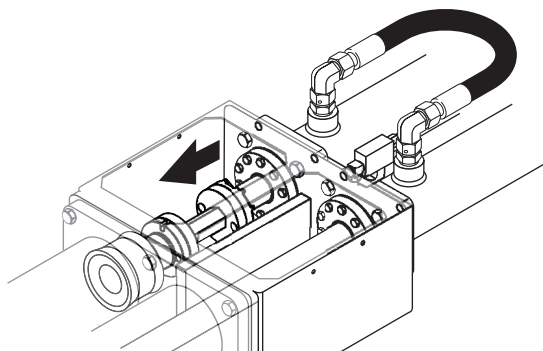

Figure 32
7. Restart the engine and clear all E-stops. Press the concrete pump forward or reverse button and ram change mode button simultaneously. Slowly move the cylinder down to where its flange butts up to the spacer coupling. Be careful not to go too far (Figure 32).